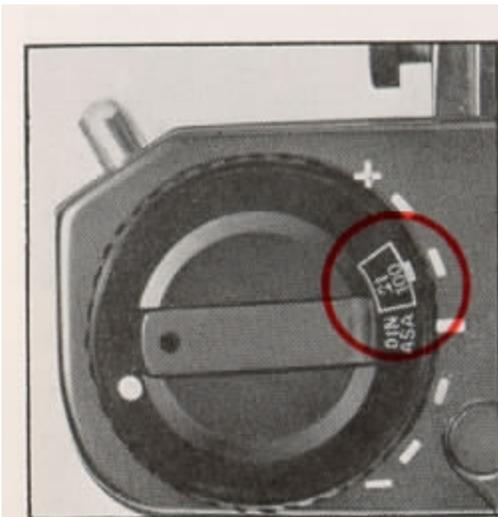

Fig. 36
(2) white index $1/3$ over exposure (Fig. 36)
(3) red index 1x correct exposure
(4) white index $1/3$ under exposure